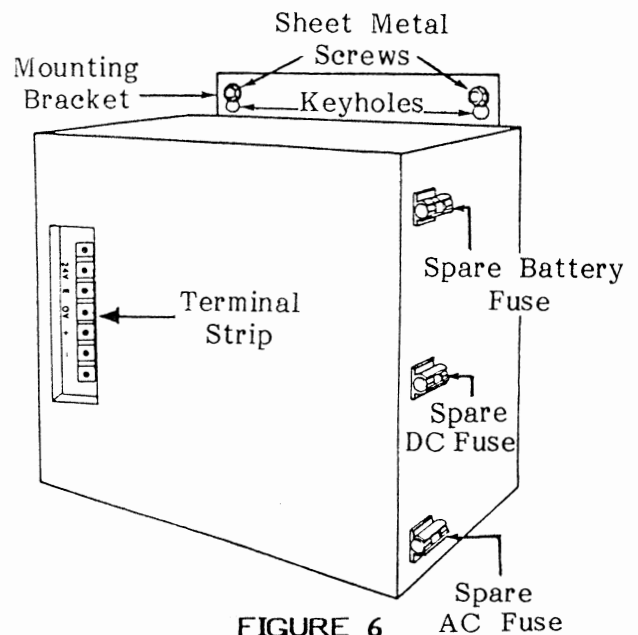

FIGURE 6
**01.24** Place the EPSA against the mounting surface with the screws protruding through the holes (Figure 6).
**01.31** Remove the spare fuses from the hardware carton, and place them in their individually marked holders (see Figure 6).